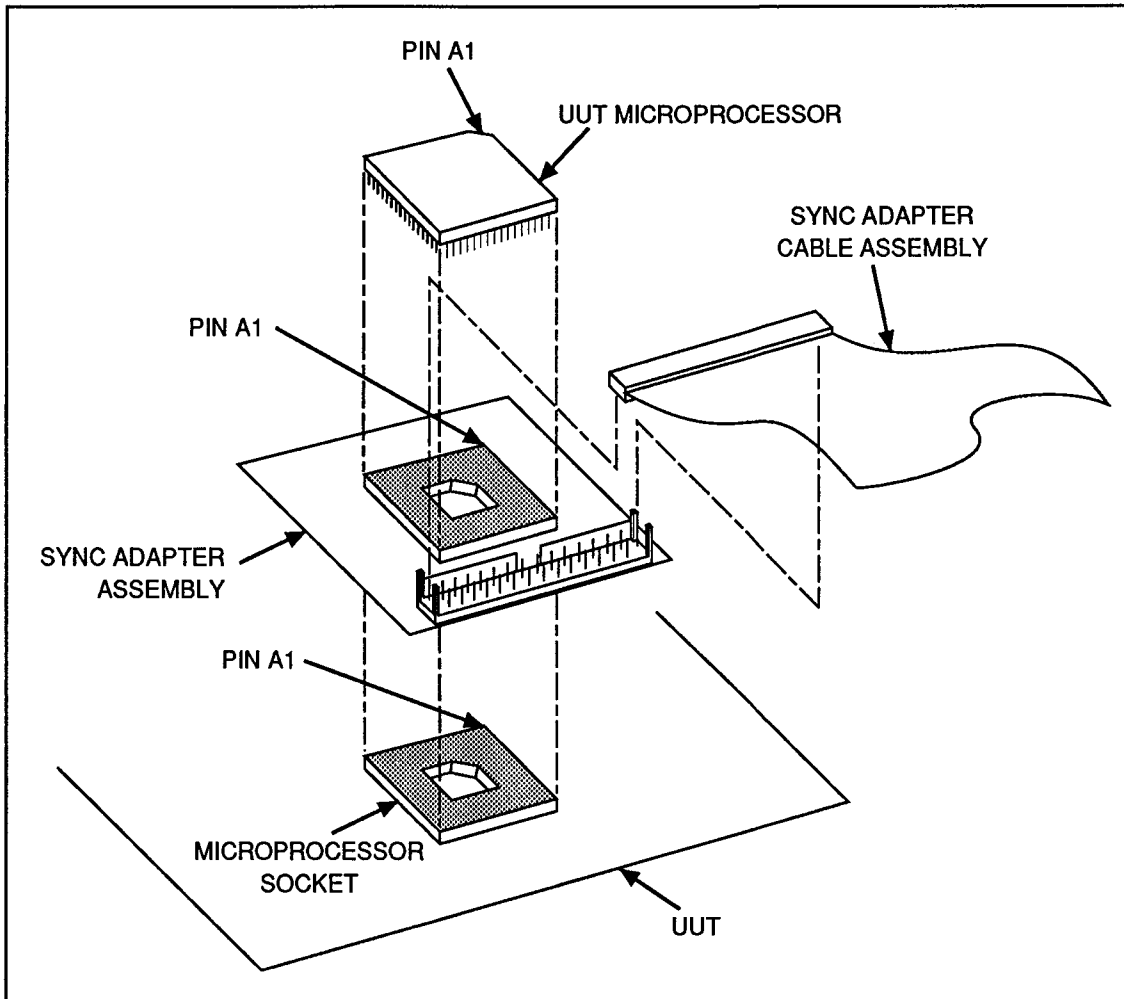

Figure 2-8. Connecting the Sync Module to the UUT
5. Connect the Sync Adapter assembly to the Sync Module (as shown in Figure 2-8). Remove the 68030 processor from the UUT and plug it into the socket on the adapter board. Connect the adapter board plug into the processor socket on the UUT. Connect the UUT RESET line (white wire) on the Sync Module to system reset on the UUT. Connect the UUT RESET ground line (black wire) to UUT ground.